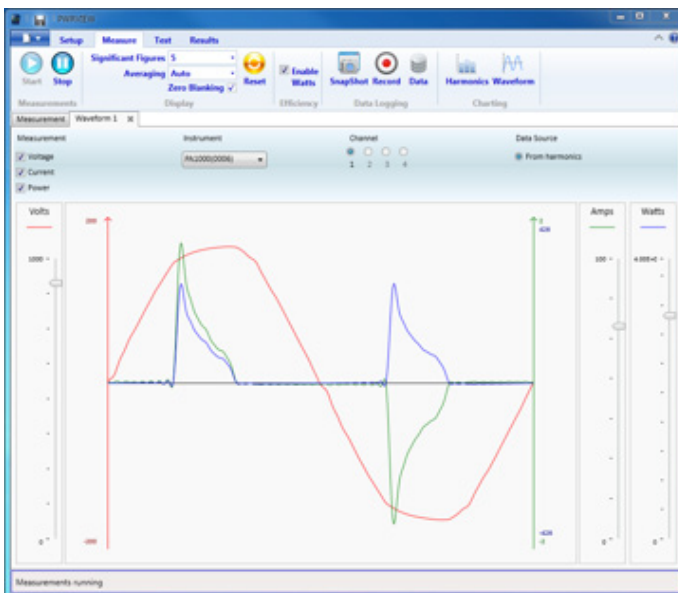

Figure 17. Waveform display.
- PWRVIEW can also be used to view waveforms and bar charts as shown in following Figure 17 and Figure 18 respectively.